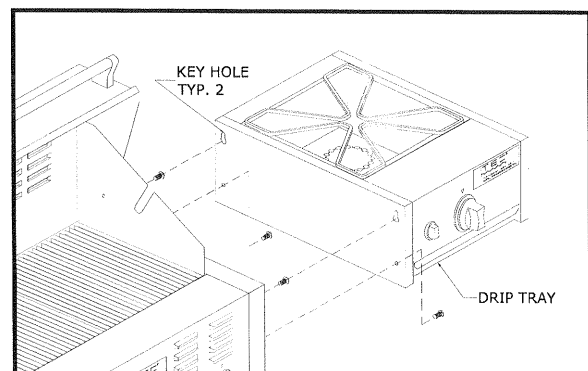

Figure 2. Side-burner Mounted
3. Use the four (4) 1/4 - 20 x 1/2" L slotted hex washer head screws to attach the Side-burner to the Grill. Thread two (2) screws approximately 1/4" into the two (2) top threaded inserts.
5. Tighten the two (2) top screws until the side panel of the Side-burner is flush against the Sterling® Gas Grill side panel.
6. Connect the two (2) screws into the bottom two (2) threaded inserts through the side of the Side-burner and into the side panel of the Gas Grill. (See Figure 2.)
7. Tighten all four (4) screws firmly.